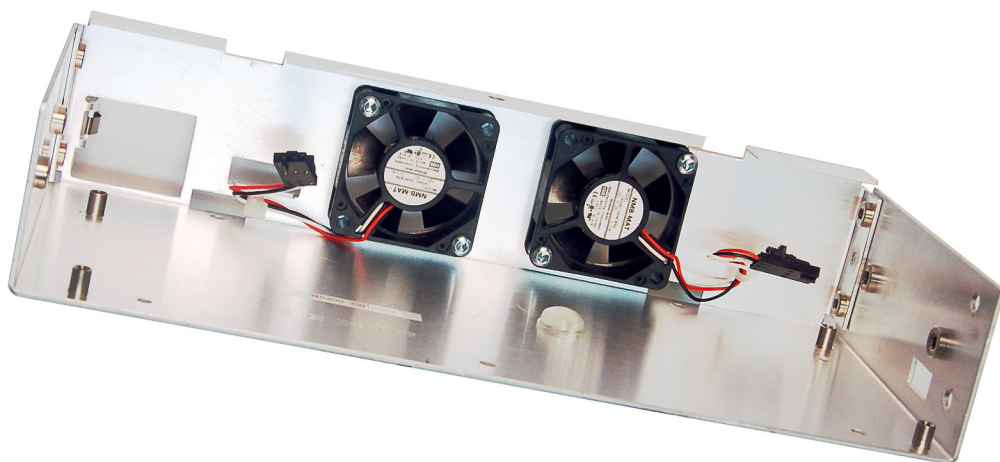

Figure 3: Fan and main chassis
2. Remove the fans from the main chassis. When reassembling, put the fans inside the main chassis with the NMB-MAT labels facing towards the inside of the instrument. Make sure the fans are rotated so that the cables are located up against the main chassis bottom and on the outer corners. (See Figure 3.)